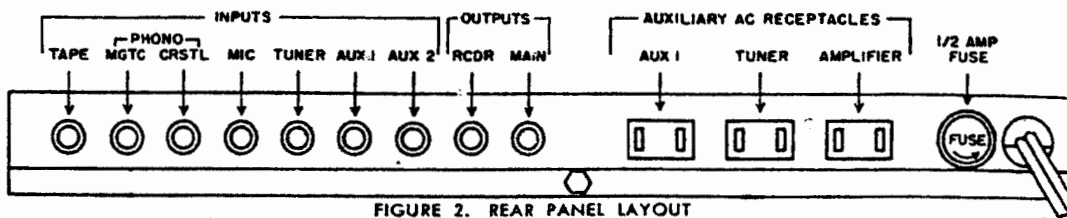

FIGURE 2. REAR PANEL LAYOUT
**INPUTS:** Total of seven. Three high-level inputs (0.5 megohm.) One Magnetic Phono Cartridge low level input. One Constant Amplitude Cartridge input. One Microphone input (18 megohms.) One Tape-Playback input (low level, high impedance.) Two to five inputs may be mixed and used simultaneously without interaction between channels. See FIGURE 2.
**AC POWER CONNECTIONS.** THE FISHER MASTER AUDIO CONTROL, Series 80-C operates on 105-125 volts, 50-60 cycle AC. Three auxiliary AC receptacles will be found on the rear apron (see FIGURE 2.) These can be used for an FM-AM tuner, amplifier, and any other auxiliary equipment such as a tape recorder, etc. **CAUTION:** Make certain that the power consumed from any *one* receptacle does not exceed 350 watts and that the combination of *all* auxiliary power does not exceed 600 watts. In connecting the power cords of auxiliary equipment to the Series 80-C, follow the designations shown above the receptacles. That is, connect the tuner to the receptacle labeled TUNER AC, the amplifier to the AC receptacle labeled AMPL AC, etc. The exclusive FISHER circuitry of this unit has been engineered to supply power to your auxiliary equipment **ONLY** when needed, completely automatically. Thus your tuner, for example, need never dissipate wasted power when you are listening to phonograph recordings.
**OUTPUT CONNECTIONS.** The output of the Series 80-C can be connected directly to any of THE FISHER Amplifiers or to any amplifier having a minimum sensitivity of three volts. Connection to the amplifier is made from the MAIN OUTPUT jack (see FIGURE 2) to the input of the power amplifier by means of the pin-to-pin cable supplied. However, the distance between units need not be limited by this cable length. Any length up to one hundred feet can be used. A second output will be found on the rear apron of the Series 80-C, marked RCDR. This output can be used to feed a signal to the input of a tape, wire, or disc recorder having its own amplifier. The Series 80-C TONE and VOLUME Controls do not affect the signal at *this* output. In that way, the main output can be varied with the MASTER VOLUME and TONE Controls for monitoring purposes, without affecting the recording.